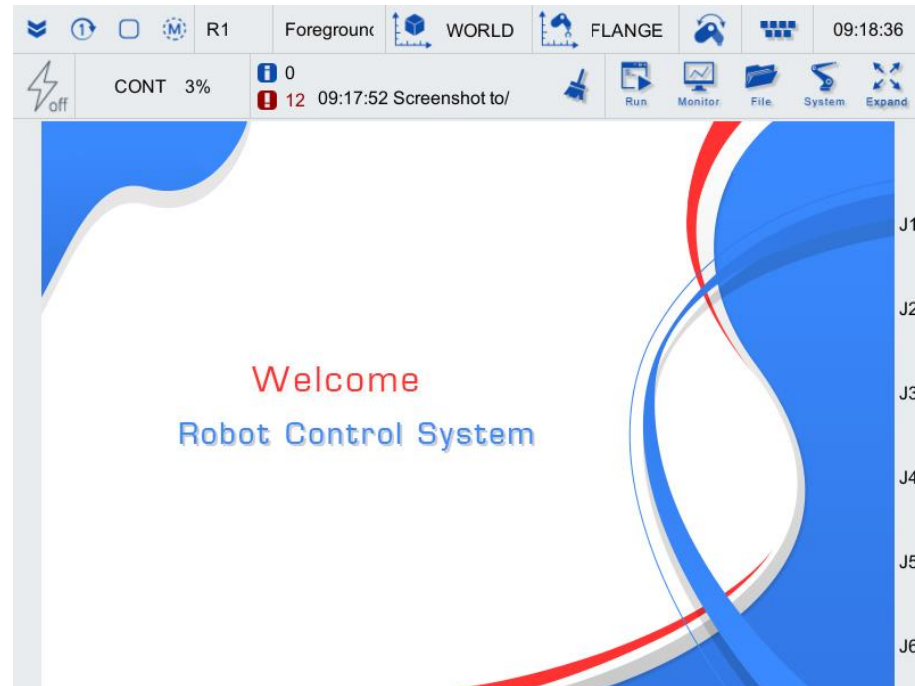

Figure 4-1 Teach pendant main interface
Step1. Log in to the teach pendant and you will see the main interface of the teach pendant as shown in Figure 4-1.